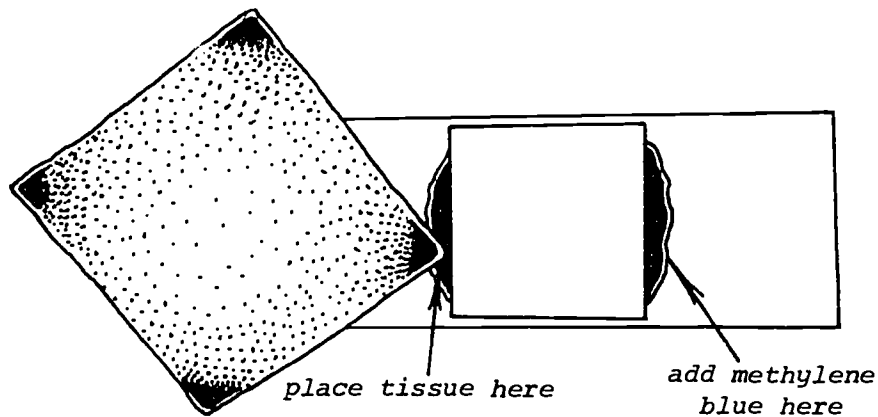

FIGURE 8: *Drawing stain across the coverslip.*
16. To see the effects of staining, focus the cotton fibers under low power. On one edge of the coverslip, place a drop of methylene blue stain. CAUTION: Methylene blue can stain your skin and clothing. Use a tissue or small piece of paper towel to absorb water from the other edge of the coverslip (see Figure 8). This process will cause the methylene blue to be drawn across the slide as the liquid is absorbed from the other side. If the field is too dark, you can remove excess stain by adding water a drop at a time and absorbing it using the same technique.